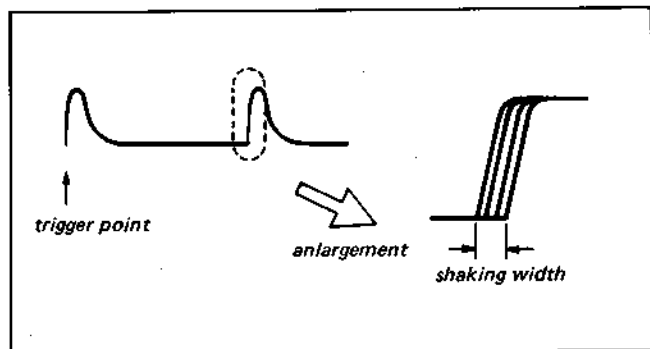

Fig. 5-26. SLOW f_H adjustment
- (1) Reduce the shaking width of f_H with RV804 during 1/5 FWD slow motion to a minimum. (See Fig. 5-26)
- (2) Reduce the shaking width of f_H during the 1/5 RVS slow motion by using RV807 to a minimum.
- (3) Repeat Steps (1) and (2) alternately to reduce the shaking width for both FWD and RVS to a minimum. (See Fig. 5-26)